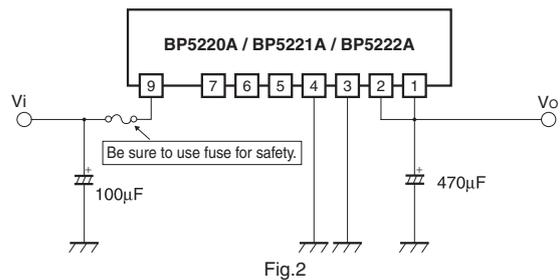

Fig.2
- (1) The basic application examples are shown in Fig.2. The only external parts required are the input and output smoothing capacitors.